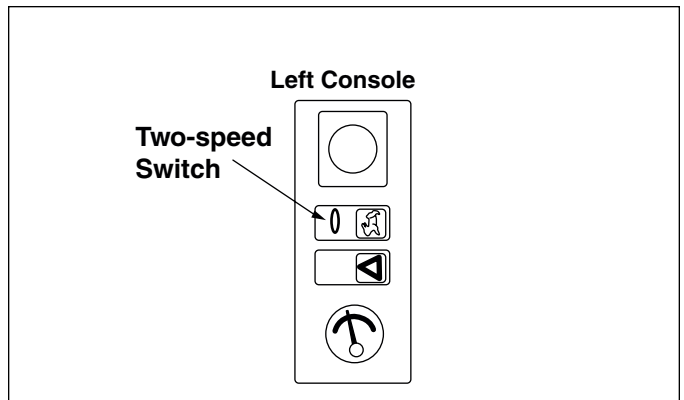

Figure 3-13. Transmission Switch on Left Console
1. Set the travel speed range using the transmission switch on the left console (Figure 3-13):